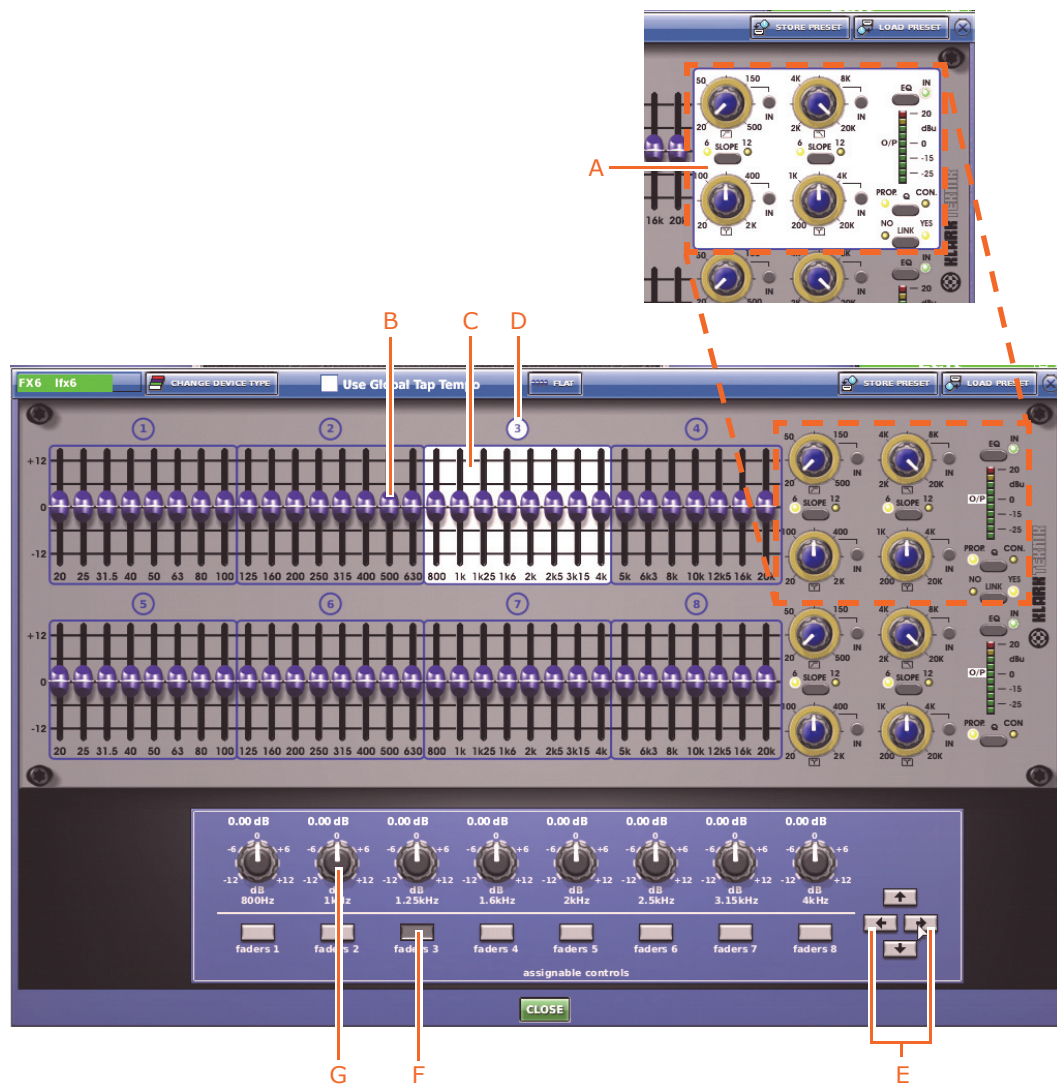

Figure 2: Stereo GEQ navigation.
- 1 In any **input select** section, press and hold down the asterisk (*) button (see Figure 2). After about one second the LCD buttons in the population group section should show their advanced navigation assignments.
- To activate an advanced navigation feature, press the desired button while still holding down asterisk (*) button. For example, to activate flip, press the **FLIP** button (see Figure 2).
Figure 2: Activating and selecting the advanced navigation buttons on an XL8. When an advanced navigation mode is active, its associated LCD button displays a dark background (A) and, when inactive, the background is blue (B).
To navigate the channels and controls of the GEQs, use the assignable control buttons and the left/right arrow buttons (see Figure 2 on page 28).